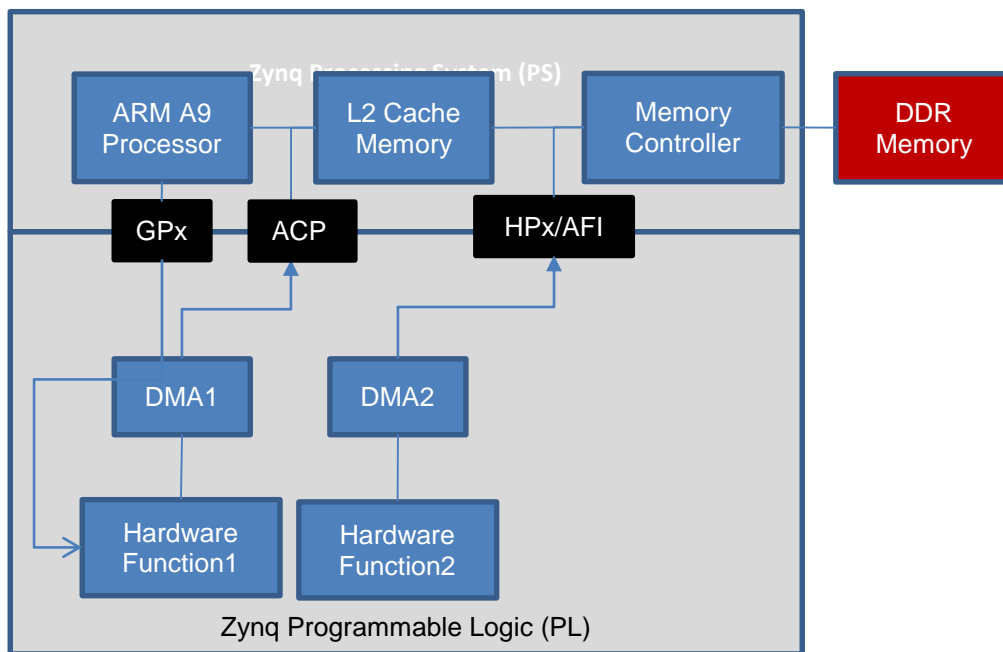

Figure 21. Simplified Zynq + DDR diagram showing memory access ports and memories
As shown in the simplified diagram in Figure 21, the Processing System block (PS) in Zynq devices has three kinds of system ports that are used to transfer data from processor memory to the Zynq device Programmable Logic (PL) and back. They are ACP (Accelerator Coherence Port) which allows the hardware to directly access the L2 Cache of the processor in a coherent fashion, HP0-3 (High Performance ports 0-3), which provide direct buffered access to the DDR memory or the on-chip memory from the hardware by-passing the processor cache via AFI (Asynchronous FIFO Interface), and GP0/GP1 (General-Purpose IO ports) which allow the processor to read/write hardware registers.